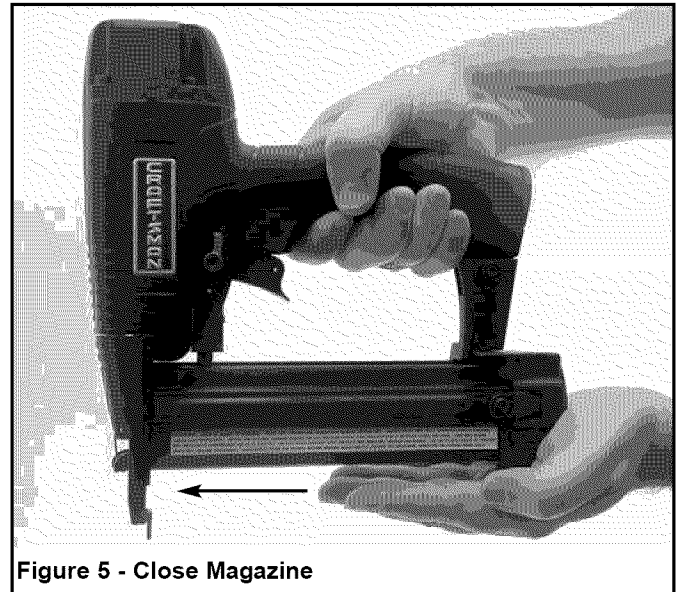

Figure 5 - Close Magazine
- Slide magazine cover forward over magazine until latch snaps into place, locking magazine cover (see Figure 5).